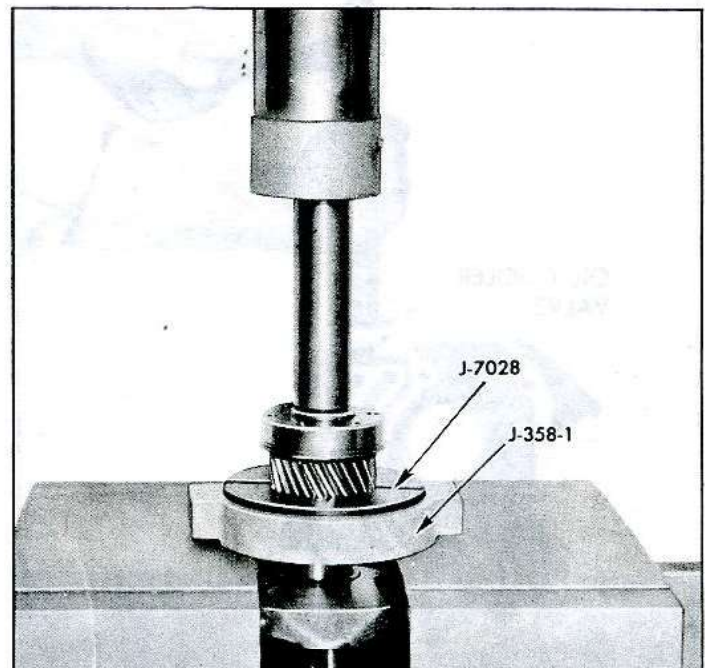

Fig. 120—Removing Crankshaft Gear
4. Install crankshaft with Tool J-7028 into Tool J-358-1 on a hydraulic press (fig. 120).